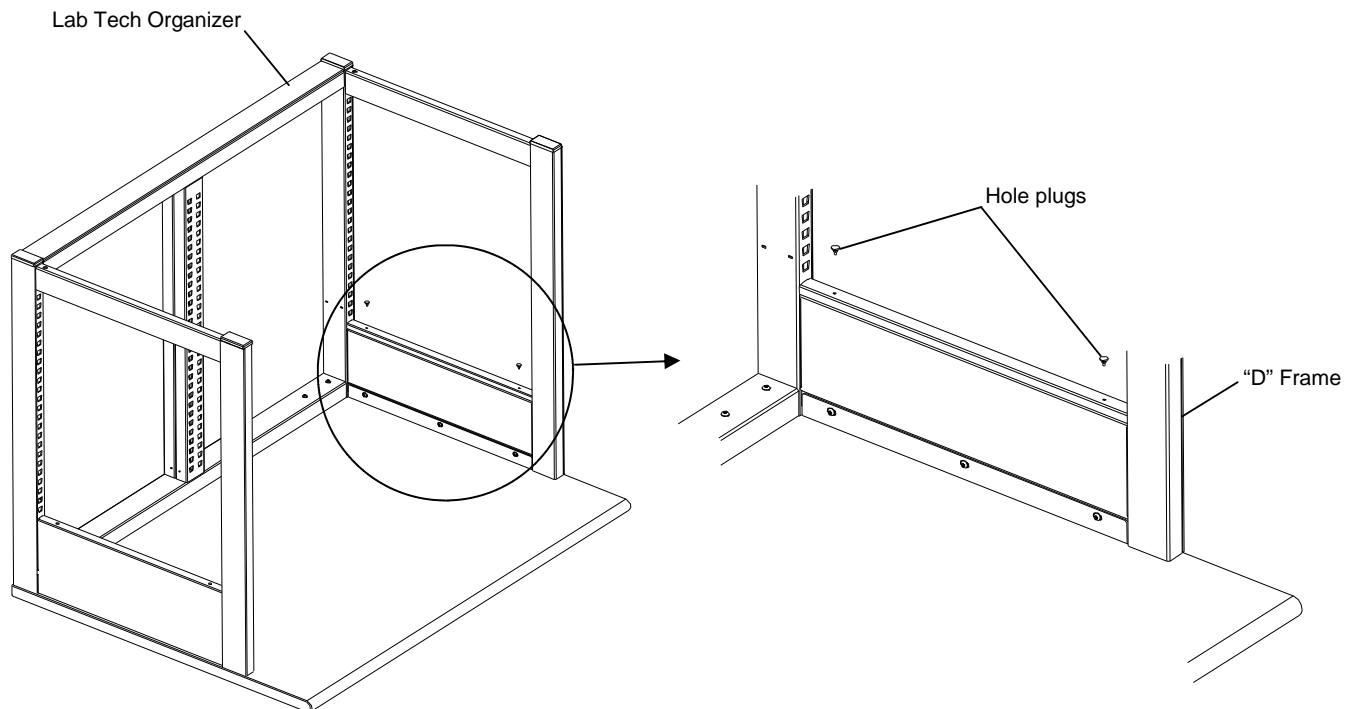

Figure 1.
1. Remove the Hole Plugs from the bottom of the “D” Frame to which the White Board will be assembled to. See figure 1.